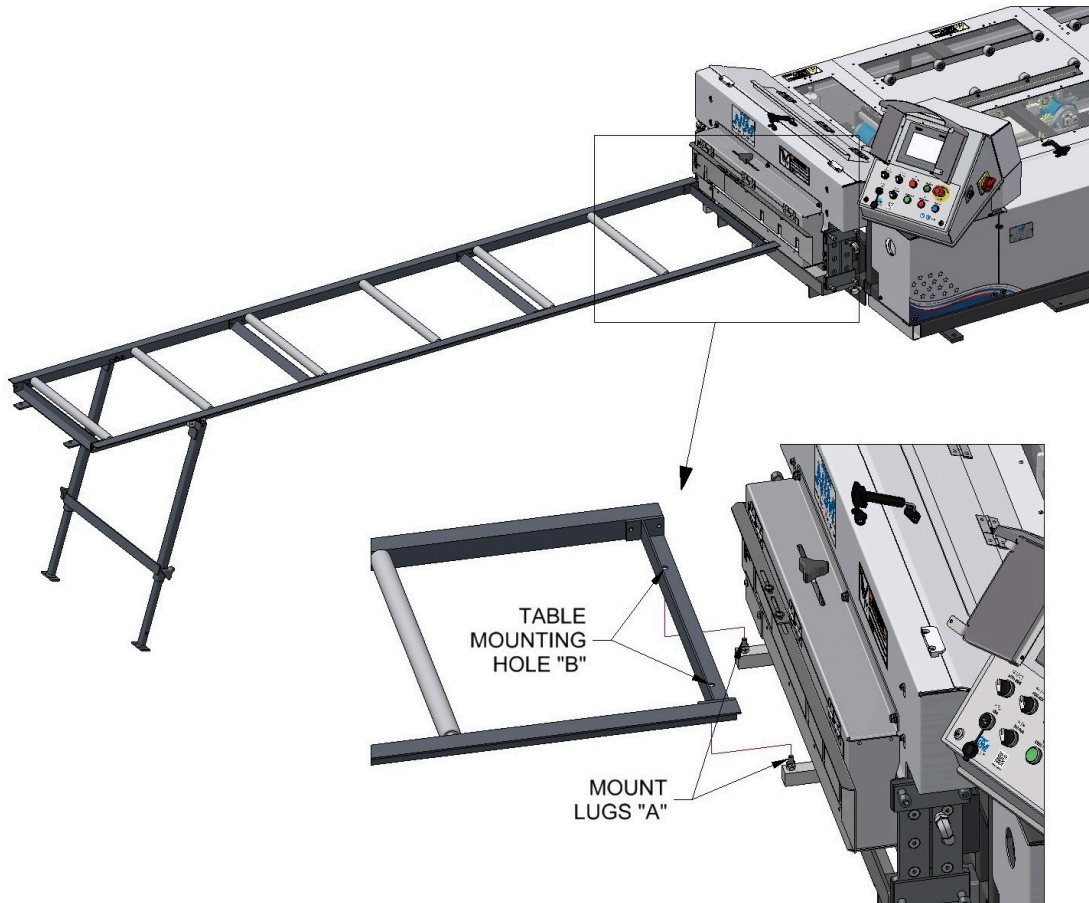
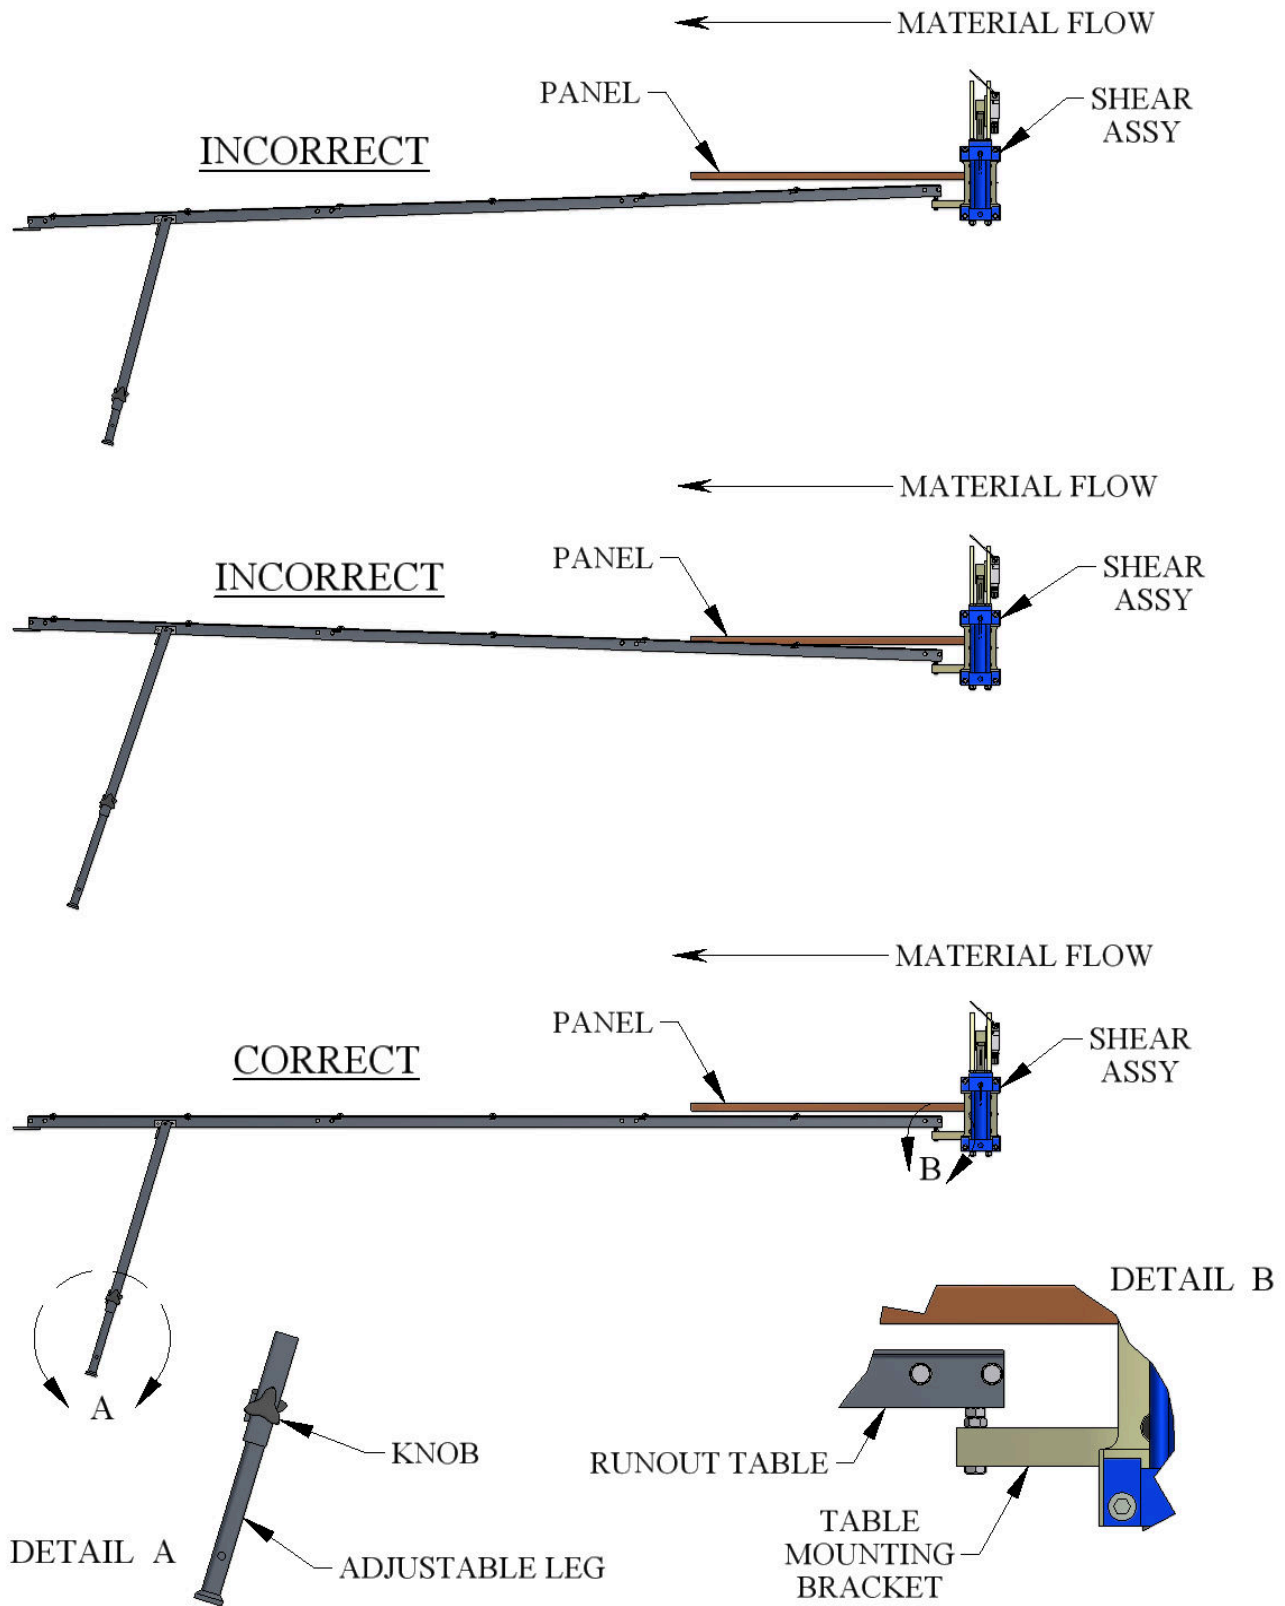

Figure 119: Run Out Table
Figure 120: Run Out Table Setup
(Figure 119 & Figure 120)
4. Loosen the 2 knob-handles on the leg assembly and allow the legs to fall free. Sight the height of the table on the left and right side adjusting it level to the machine using the knob-handles to lock the legs in place. See Figure 120 for correct and incorrect set up and details.